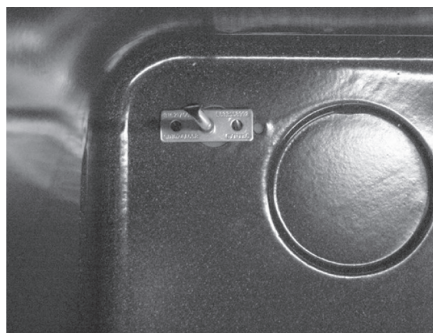

Fig. O-10
5. Remove the (2) screws holding the Thermistor from inside the oven (**Fig. O-10**).